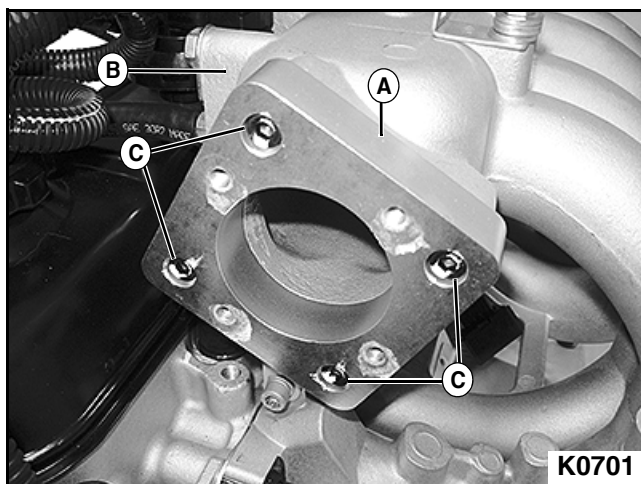

Figure 3-39
1. Install the throttle body upper intake manifold adapter (A) to the upper intake manifold (B). Secure with four socket head cap screws (C). **See Figure 3-39.**